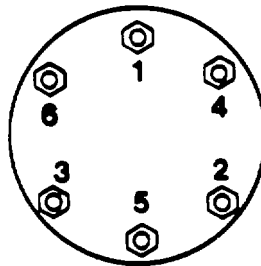

Figure 3-11. Cartridge Filter End Cover (Eye Nut Tightening Sequence)
- (4) Slide eyenuts (1) with washers (2) into cover brackets (3) and tighten in the order shown (fig. 3-11).
- (5) Attach quick disconnect to vent (6). Operate ROWPU and check for leaks.